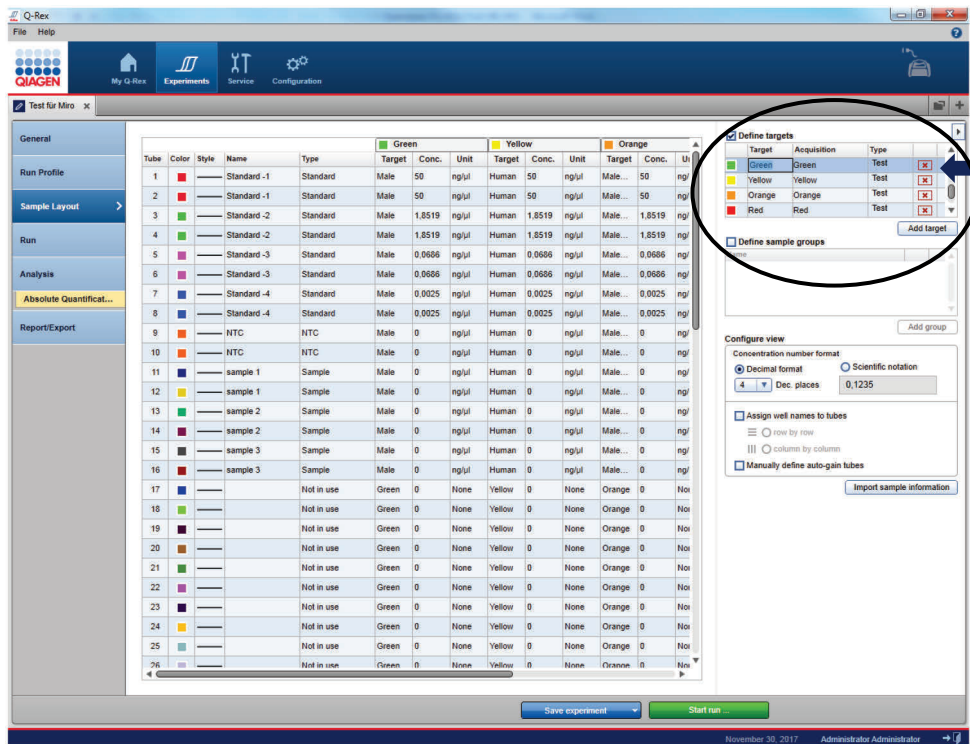

Figure 27. Remove additional targets for “Not in use” tubes.
39.Scroll down in the “Define targets” windows and remove the additional targets (green, yellow, orange, red and crimson) assigned for “Not in use” tubes by clicking on the red delete field (Figure 27). Take care not to remove the imported targets Male, Human, Male Degradation, Human Degradation and IC.